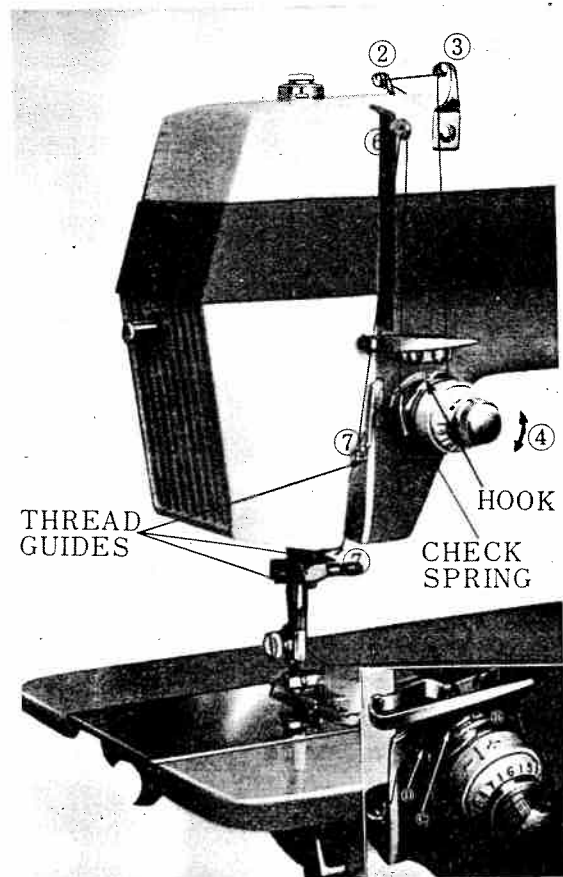

Fig. 12
5. Draw the thread up through the check spring and with a slight tug into the hook. (See insert, Fig. 12)